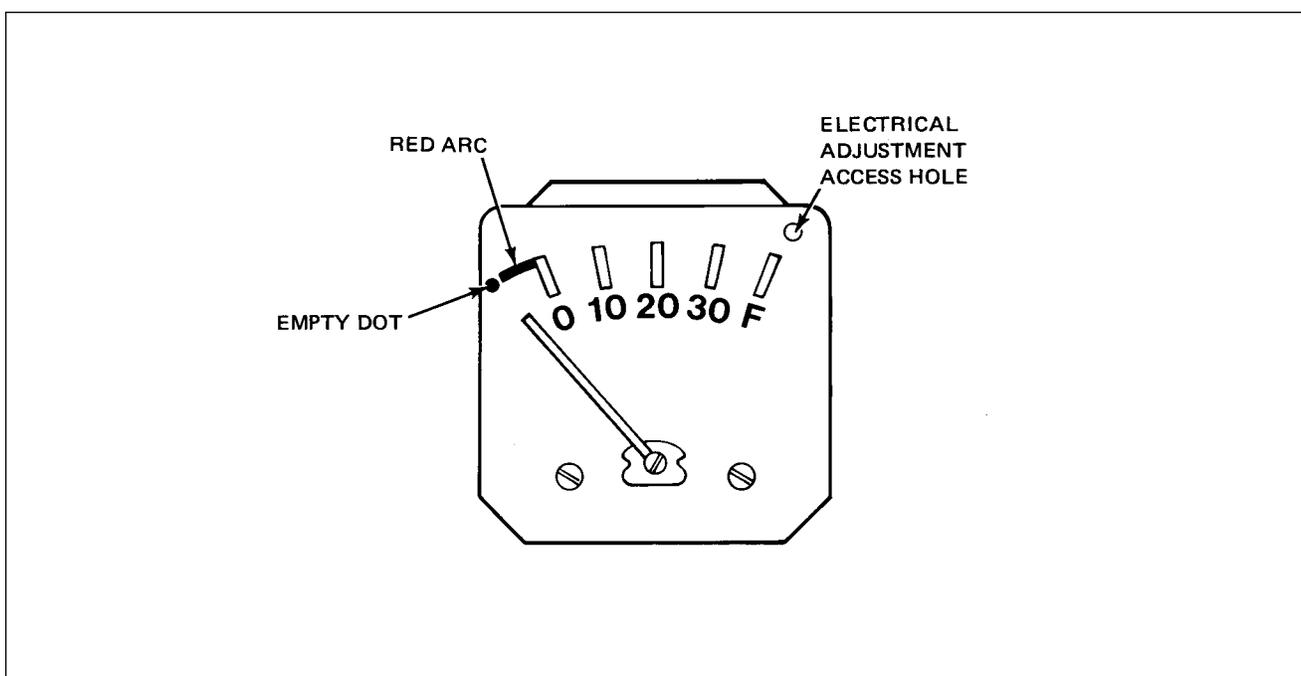

Figure 28-8. Fuel Gauge
9. With the tanks full and master switch "ON," the needle should be centered on the "F" radial mark within  $\pm 2$  needle widths. If not within this tolerance, adjust the electrical adjustment (refer to Figure 28-8) just sufficiently to bring it within tolerance; do not center the needle.